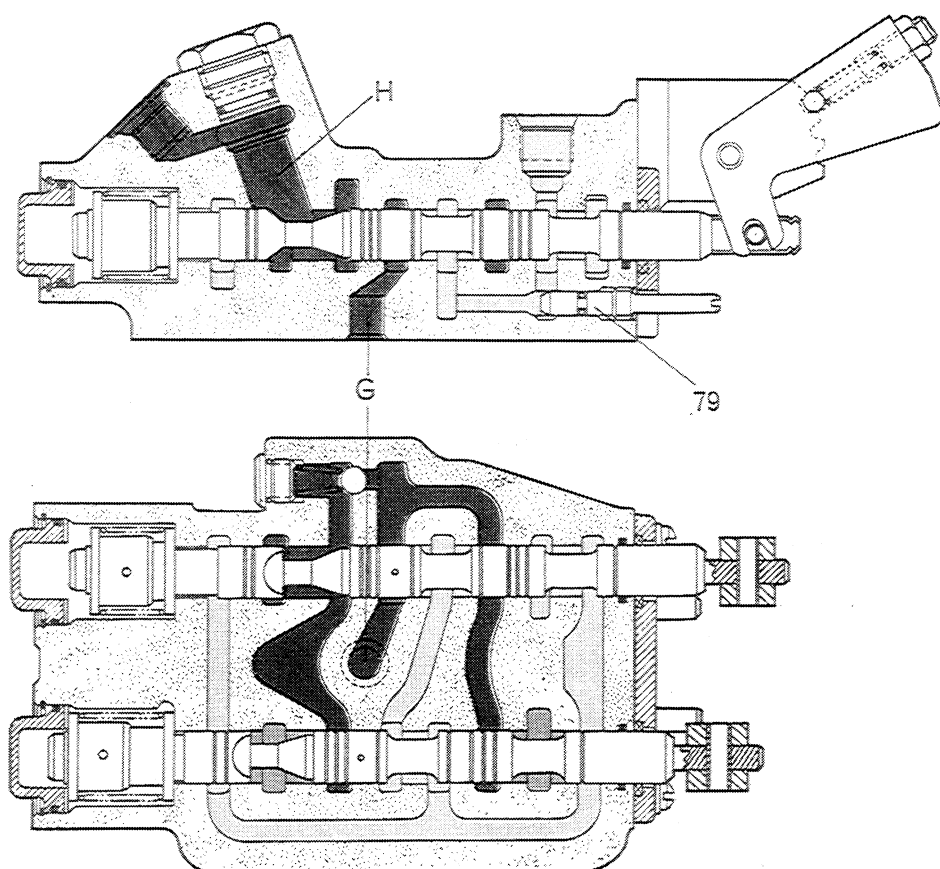

FIG. 13
**Single-Acting Raising (Lever Back) (Fig. 13)**